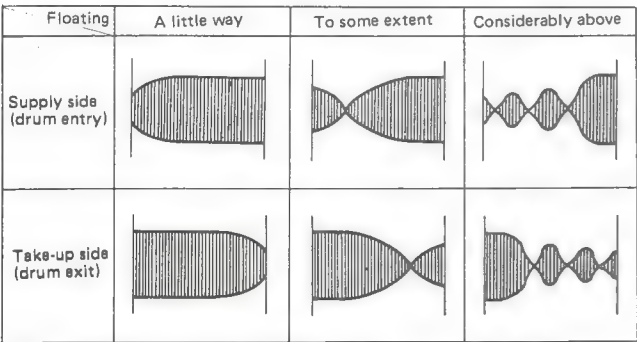

Figure 28
- 3. Adjust the height of the guide rollers while watching the envelope so that the tape runs along the drum lead. Whether the video tape is above or below the helical lead will be shown in the waveform represented by the envelopes in Figures 28, 29.